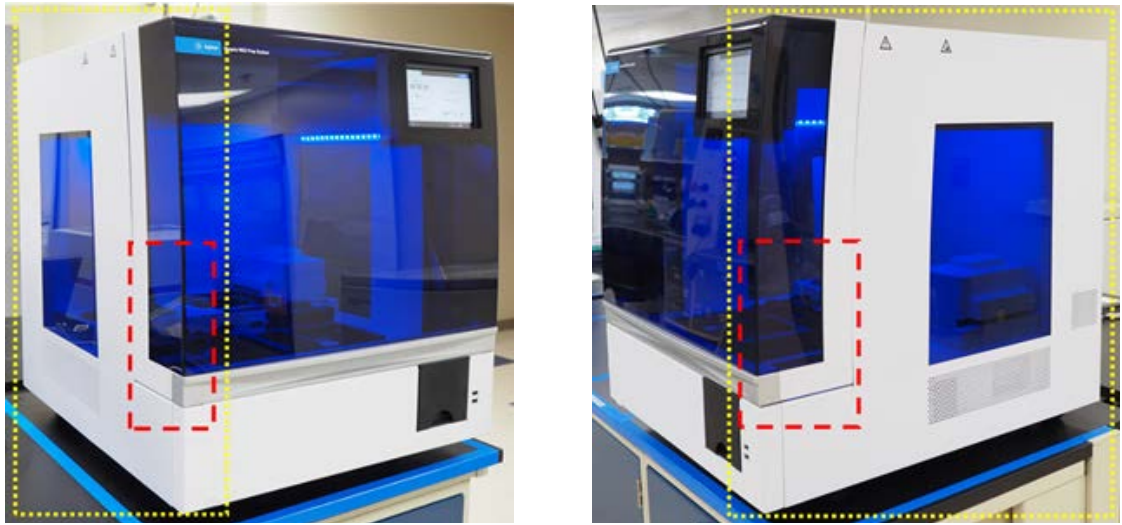

Figure 29 Exterior surfaces on the left and right sides of the instrument to be wiped down
- c Instrument Exterior - Left and Right:** Using a laboratory wipe moistened with 70% isopropyl alcohol, wipe down the left and right sides of the instrument, which are outlined in yellow in Figure 29. Areas outlined in red require particular attention for careful cleaning as these are the areas where the door is gripped during opening and closing.